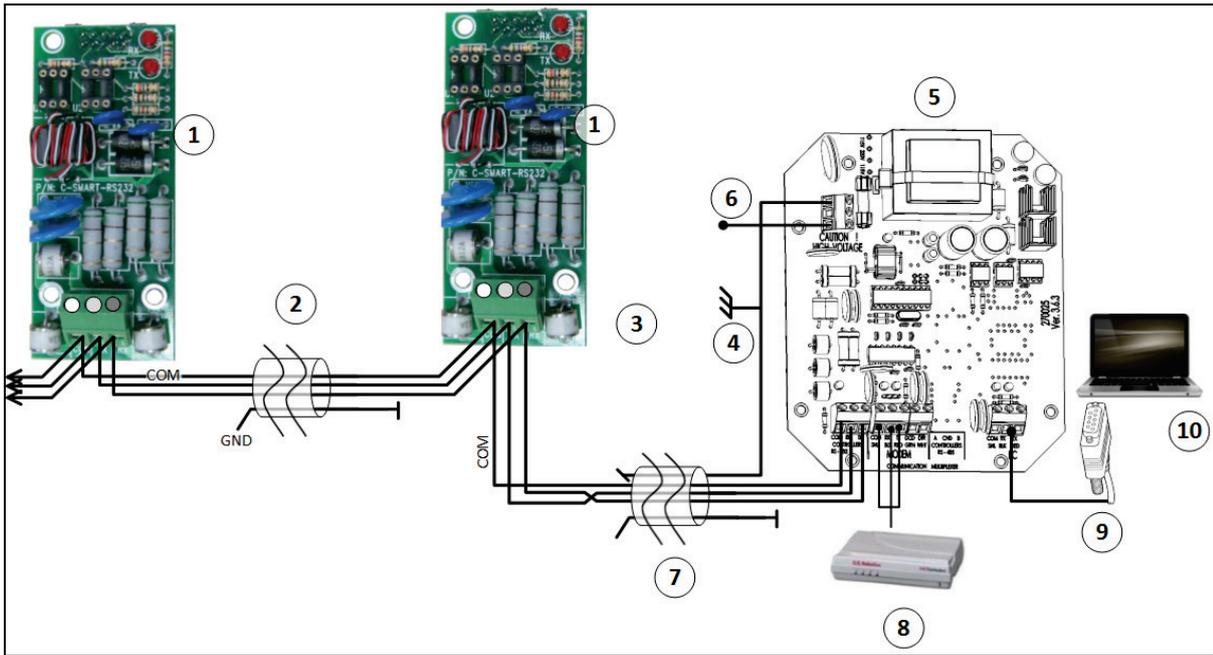

Figure 6: Smart C Communication RS-232 Wiring Diagram
- Figure 6: Smart C Communication RS-232 Wiring Diagram
Figure 6 key